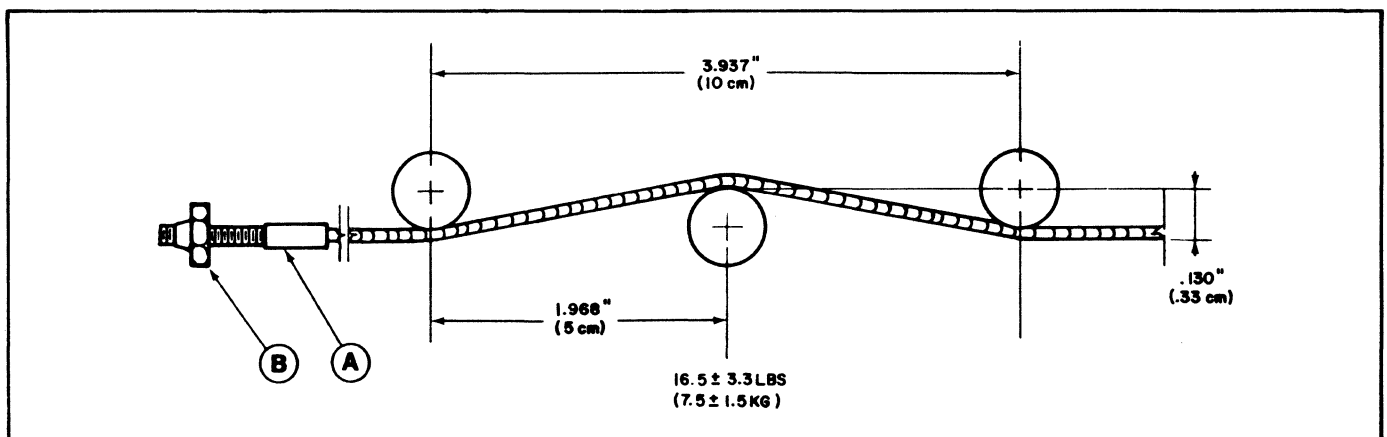

Figure 3-11. Carriage Drive Cable Adjustment
3.4.1.3 CARRIAGE DRIVE CABLE (Figure 3-11)